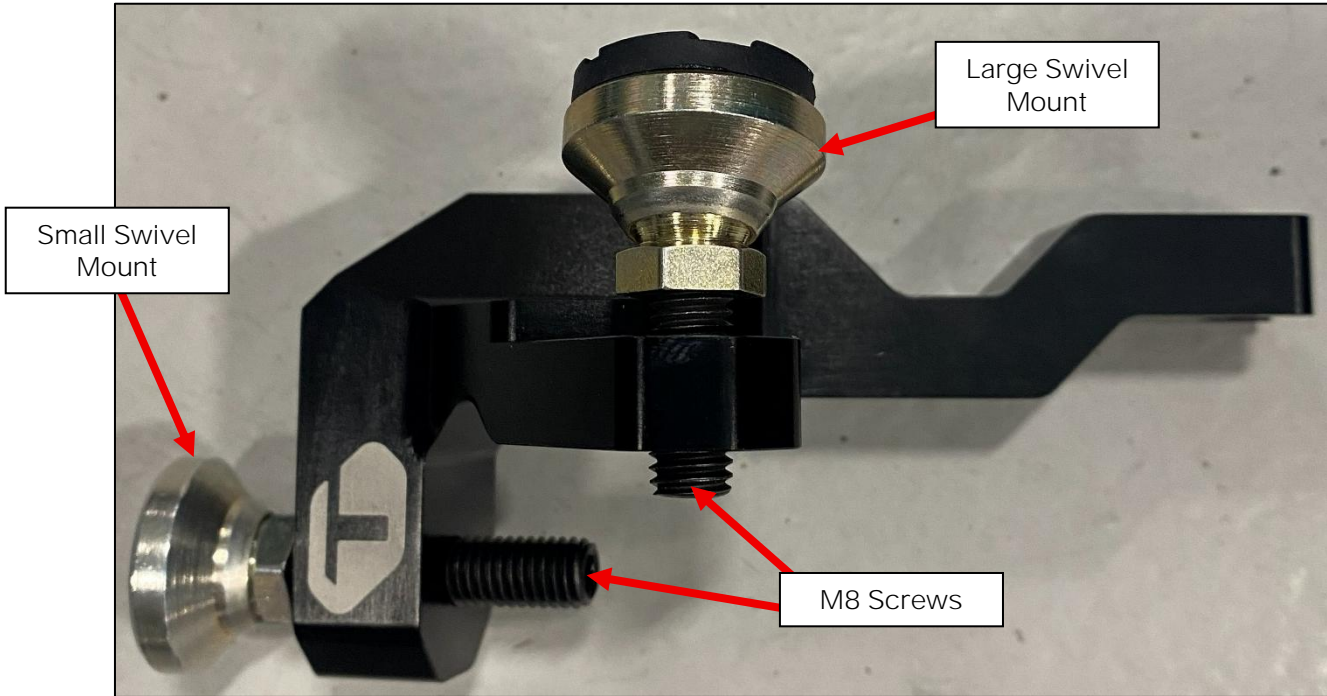

Figure 2
- a. Place the Large Swivel Mount on (1) one M8 Screw and the Small Swivel Mount on the other M8 Screw. *Figure 2.*
- b. Install the M8 Screws into the Master Cylinder Brace. The Small Swivel Mount will be at the top and brace against the Master Cylinder. Thread the Screws down so that the Swivel Mounts bottom out on the Brace. *Figure 2.*